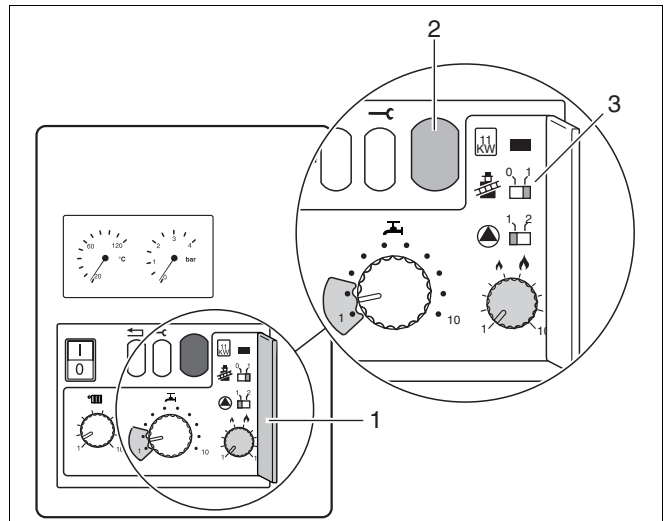

Fig. 32 Display and chimney-sweep switch
- Open cover for 2nd operating level (fig. 32, item 1).
- Start boiler up and move chimney sweep switch (fig. 32, item 3) to position "1".
The display shows (fig. 32, item 2) " - ." or " = ." to indicate that the gas supply system is purged of air. Return chimney sweep switch to normal running position, that is position "0".